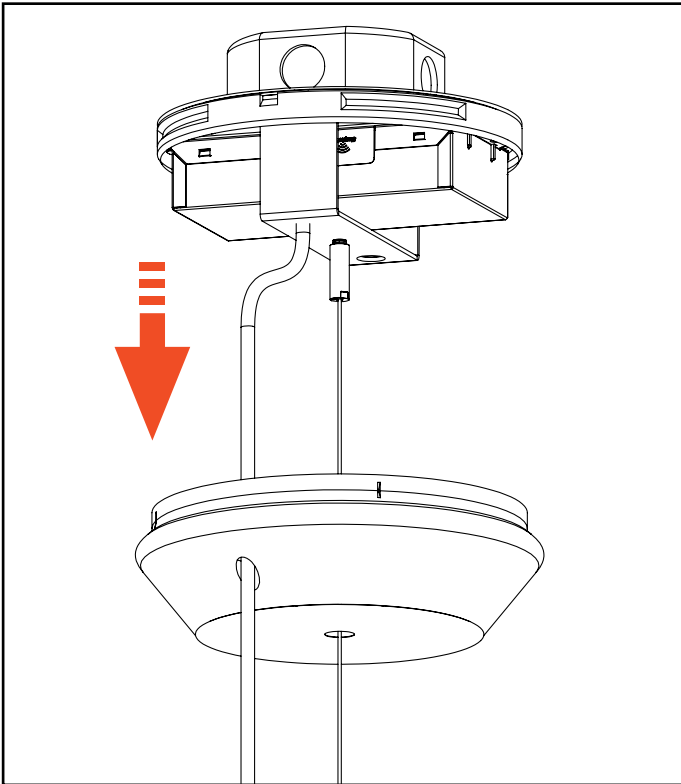

Figure 17
2. Take out the **Canopy Cover (H)** by pulling down. (Figure 17)